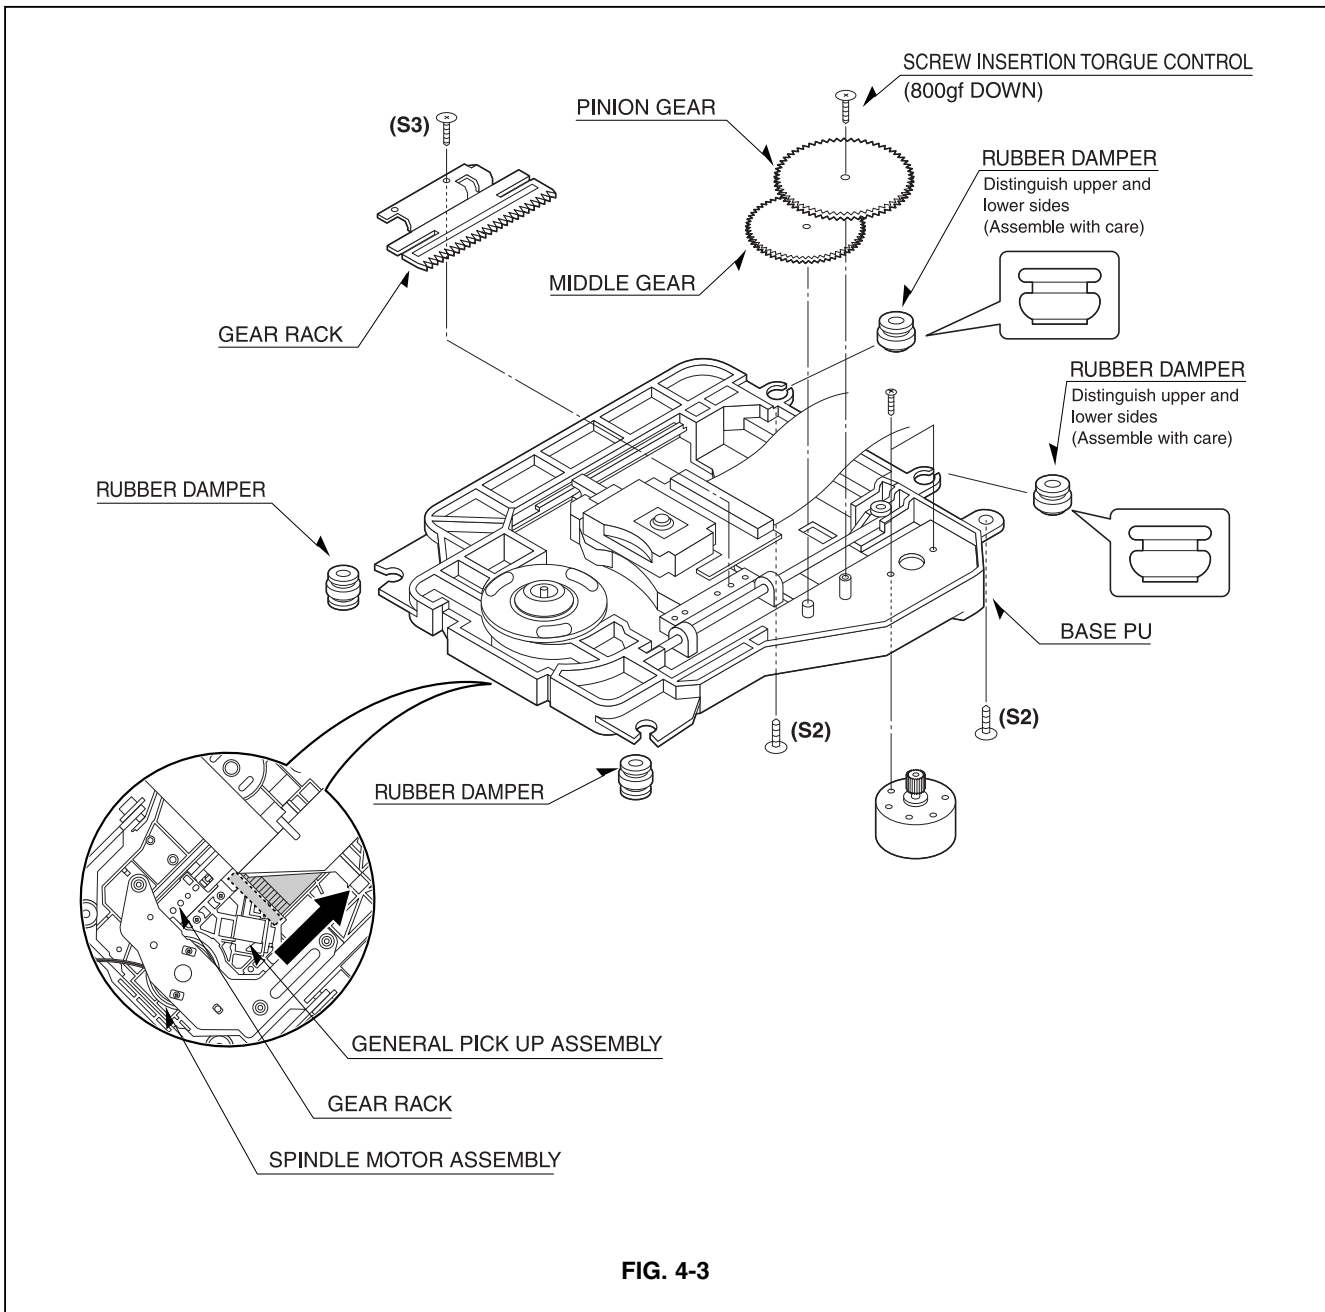

FIG. 4-3
**3. BASE ASSEMBLY SLED (FIG. 4-3)**
**4. RUBBER REAR (FIG. 4-3)**